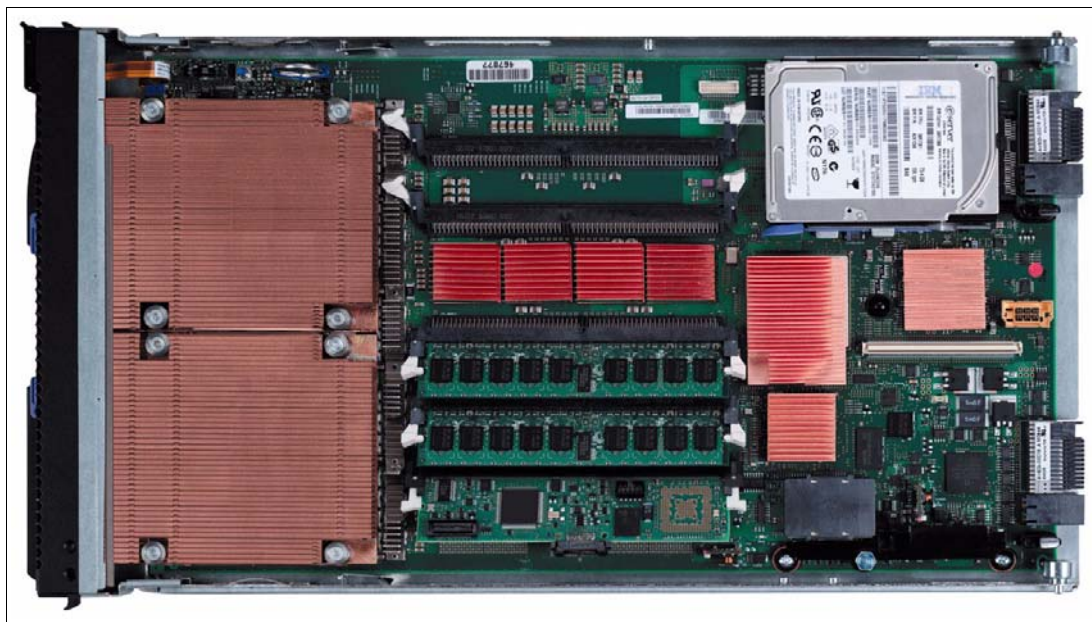

Figure 1-25 The internals of the BladeCenter JS22
Figure 1-25 on page 42 displays details of the BladeCenter JS22.
- ▶ Integrated BMC service processor plus pluggable management card (next to DIMM sockets in Figure 1-25)